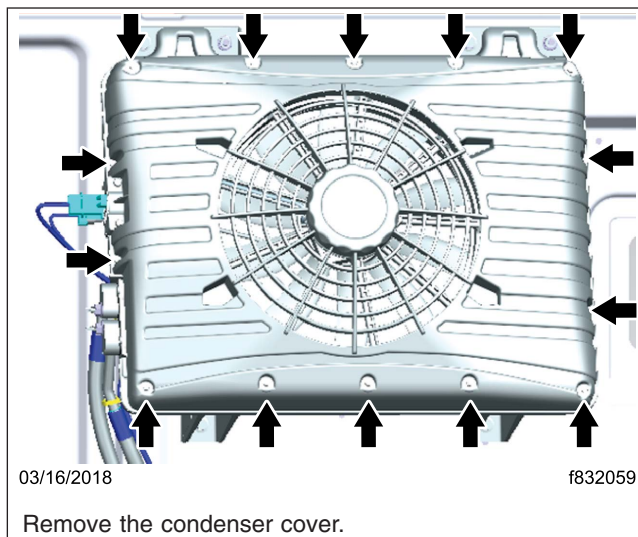

Fig. 12, Condenser Cover Fasteners (compact style condenser)
2. If needed, remove the condenser cover fasteners, then remove the cover. See Fig. 12.